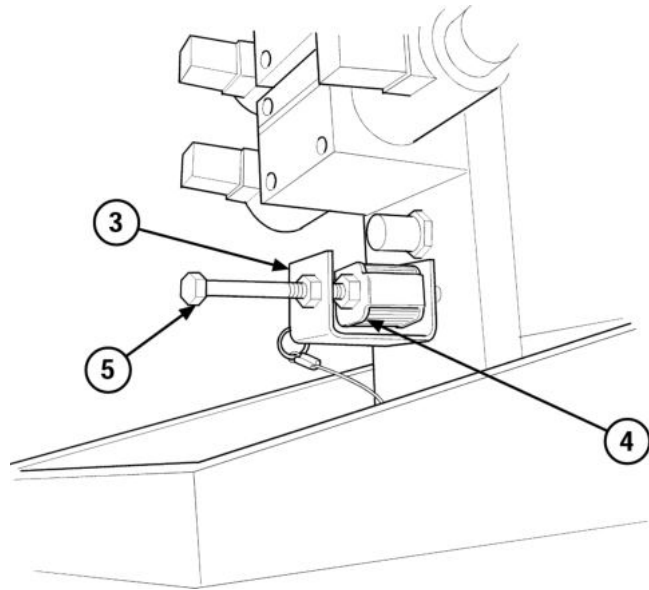

*Figure 1.*
1. Secure winch frame to the BAP. Ensure two winch frame locking levers (1) are in the up position.
**PERFORM PROCEDURE - Continued***Figure 1.*